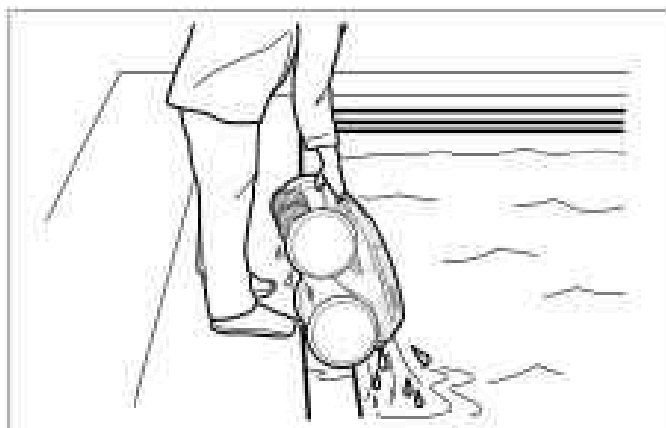

Figure 16. Keep Cleaner Vertical to Drain Water
- Hold the cleaner vertically to drain (Figure 16).